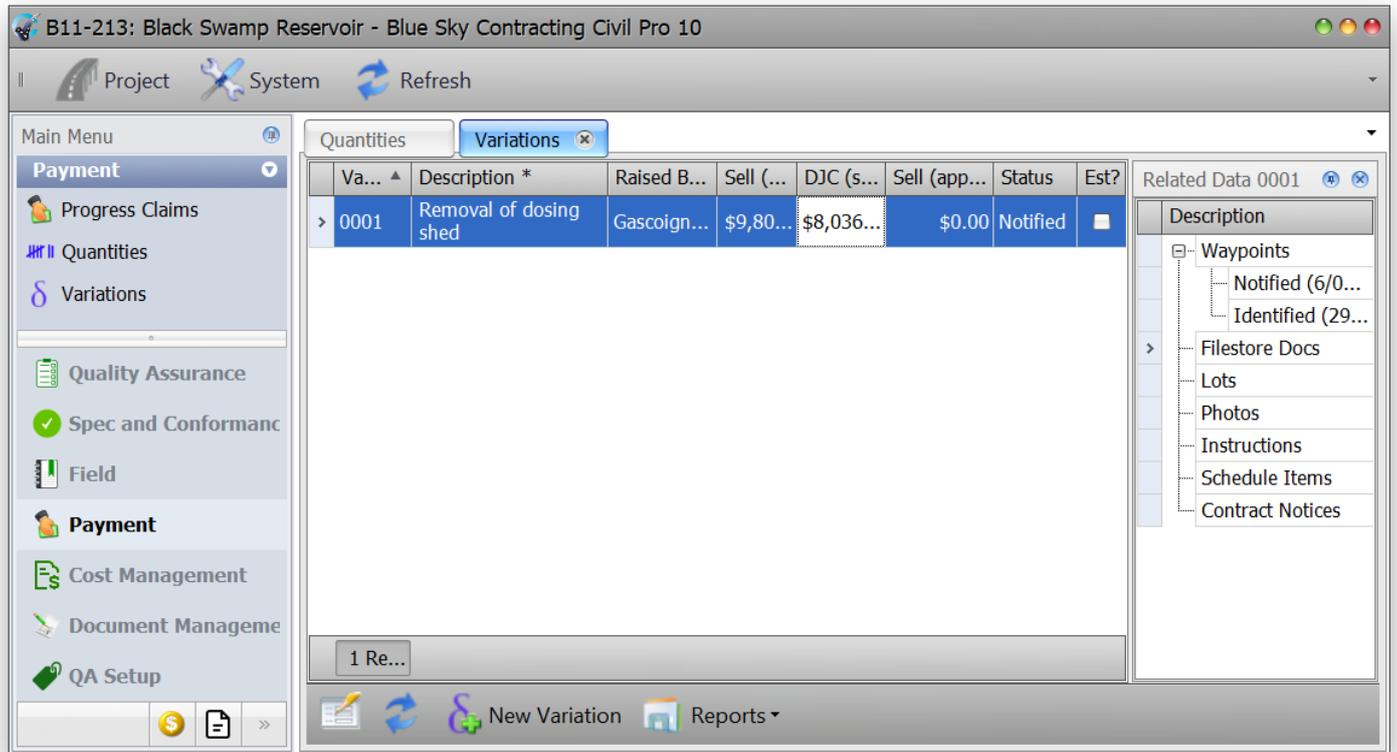

Figure 95 New variation within the Variation register
8. Enable editing and enter in the DJC submitted rate of \$8036 directly into the register. When completed your register should look like that in Figure 95 below.